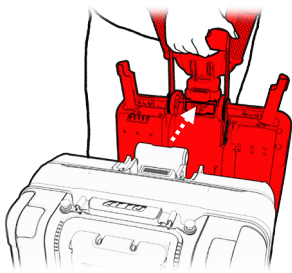

Figure 45
4. Carry the front chassis from the handle bar and separate from the back chassis (see Figure 45).